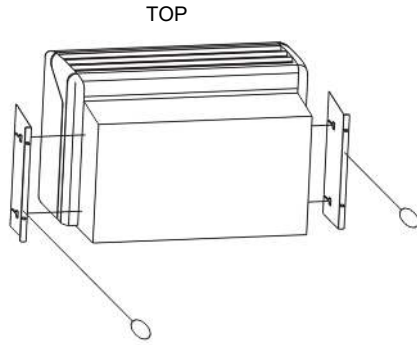

Figure 3
- (8) Secure the unit to the wall using the supplied mounting hardware. See figure 3, 4 and 5